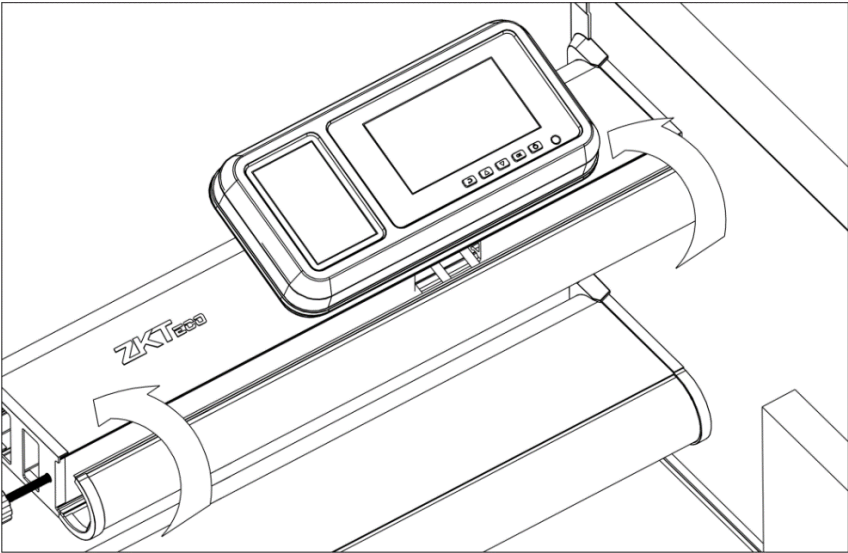

Figure 3-10
Step 9: Cover the beam cover, as shown in the figure 3-10 below.